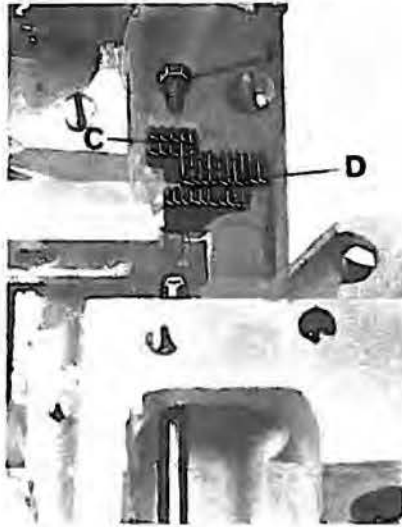

fig. 14
- At this point loosen screw 'F' (fig. 14) and raise or lower feed dogs 'C' and 'D' so that half the depth of the teeth of the feed dog are above the top surface of the needle plate.
- Retighten screw 'F' (fig. 14).
- Retighten screw 'G' (fig. 15). It may be necessary in some cases to lower chaining feed dog 'C' (fig. 14) for chaining off purposes.